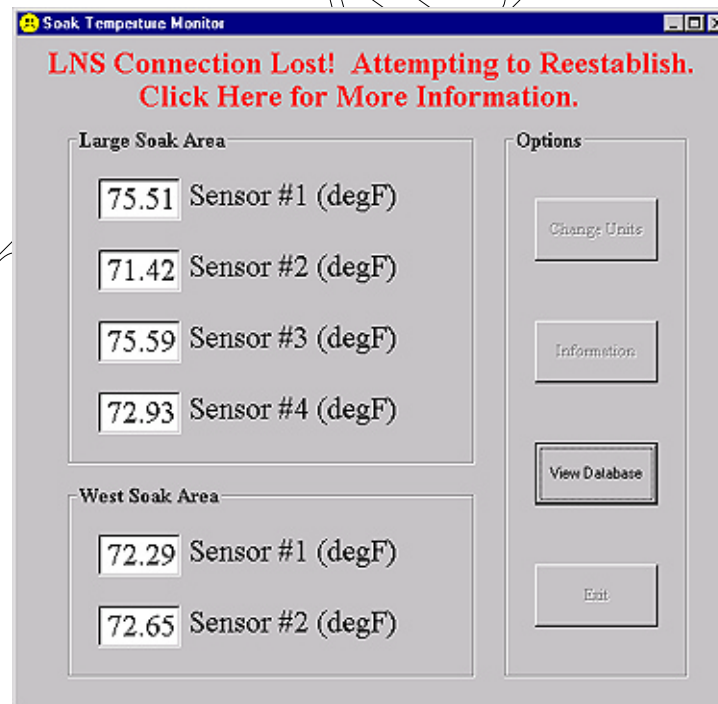

Figure 13
- 113 If the connection to the LNS is lost, the STM will automatically attempt to reconnect to the system. A red warning message will appear to alert the operator of the disconnection. See Figure 13.